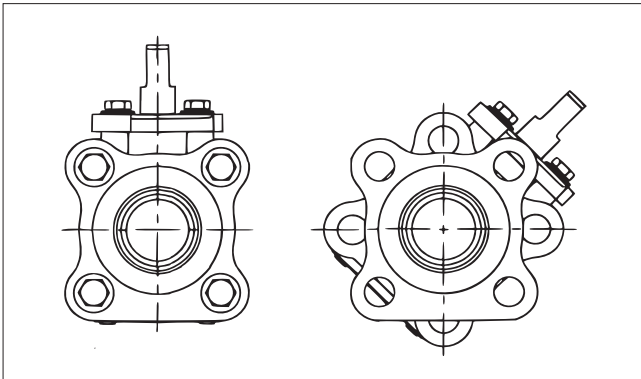
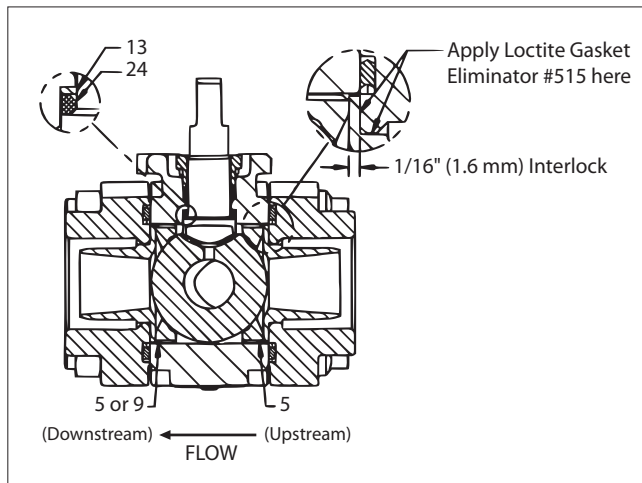

Figure 1.
Figure 3.
3. Loosen all four body bolts (52). Remove three from the valve. Leave the remaining bolt in place with the hex nut (53) backed off at least 1/4" (6.3 mm).
4. For positive alignment and ease of in-line assembly, each end cap is interlocked approximately 1/16" (1.6 mm) into the body as shown (in Figure 3). To overcome this feature during in-line disassembly it is necessary to separate each cap at least 1/8" (3.2 mm) from the body. Sharply rap body and caps with a block of wood or plastic mallet to break loose body seal. Spread end caps and swing the body out of the line. If pipe does not allow simple spreading, remove the remaining body bolt and rotate center section (per Figure 1). This will improve access to the end cap flange for ease of spreading. Swing the valve body (1) out from between the end cap (2). Be careful not to damage the sealing surfaces "A" (see Figure 3) at each end of the valve.